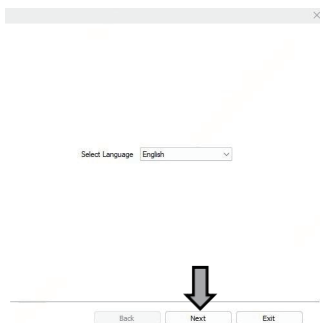

Fig.2
- ② Open the printer driver installation interface, select your preferred language, and click "Next" (see Figure 2)."